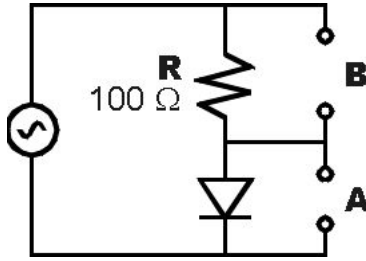

Figure 3: Diode curve tracing circuit.
- **Setup:** Assemble the circuit as shown in Fig. 3 with 1N4001 diode, a 100Ω resistor. Use frequency of 100 Hz. Set up your oscilloscope to XY mode.